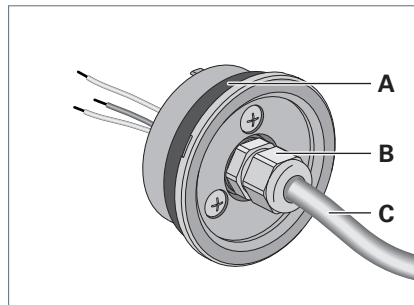

Fig. 8: Luminaire RL70.
- ▶ Pass the cable through the cable gland **B**, see Fig. 8.